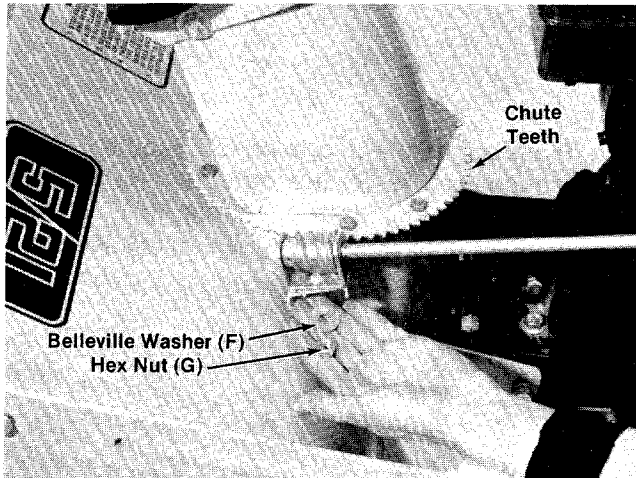

FIGURE 19.
26. Place the end of chute crank assembly into slot provided. Slide worm and bracket on chute crank assembly into teeth on chute assembly. Fasten in position with belleville washer (F) (cupped side up) and hex nut (G). See figure 19. Tighten finger tight.